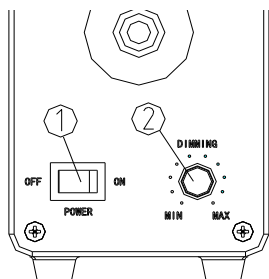

Fig. 13
- 2) Adjust the light adjustment knob (2) until the illumination is comfortable for observation. Rotate the light adjustment knob clockwise to raise the brightness. Rotate the light adjustment knob counterclockwise to lower the brightness (See Fig. 13).